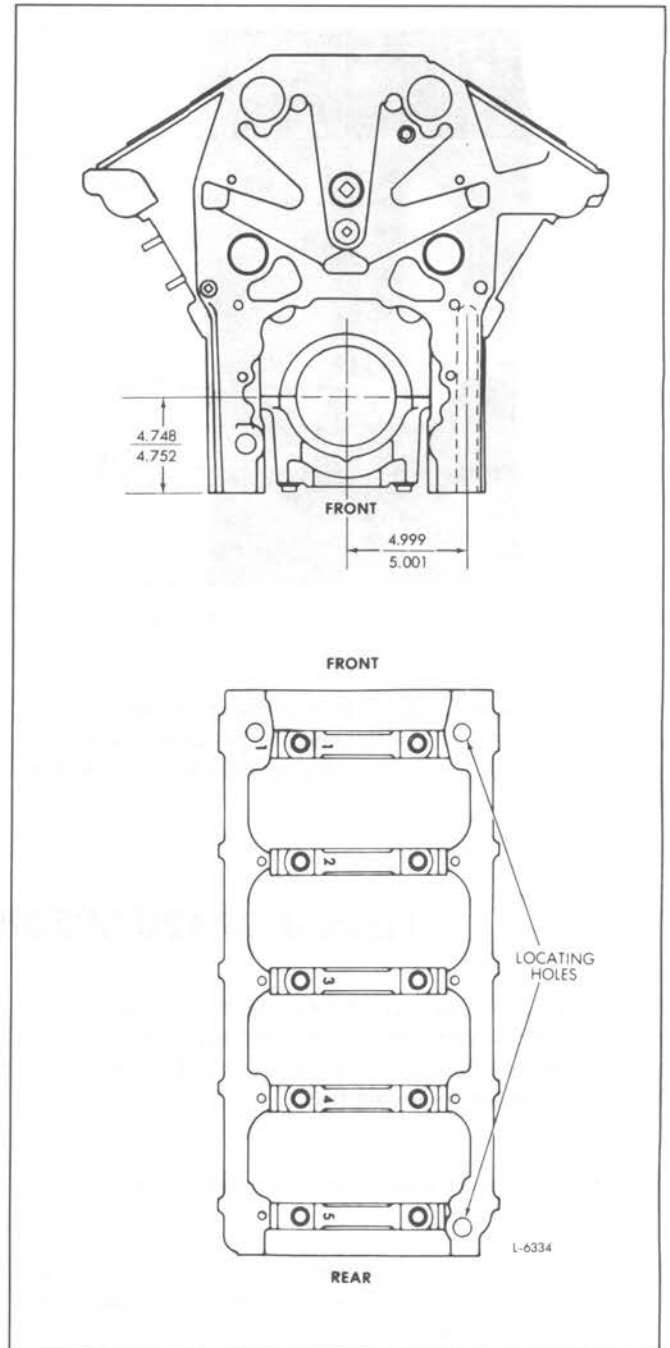

Fig. 11 - Line Boring Dimensions and Locating Holes
3. The surface from which all critical dimensions are measured for line boring are the reamed locating holes (.937"-.938" in Dia.) at each end of the left bank pan rail looking from the gear train end of the cylinder block (Fig. 11). The center line of the crankshaft is 4.999"-5.001" in from the center line of the reamed locating holes and 4.748"-4.752" up from the pan rail surface.